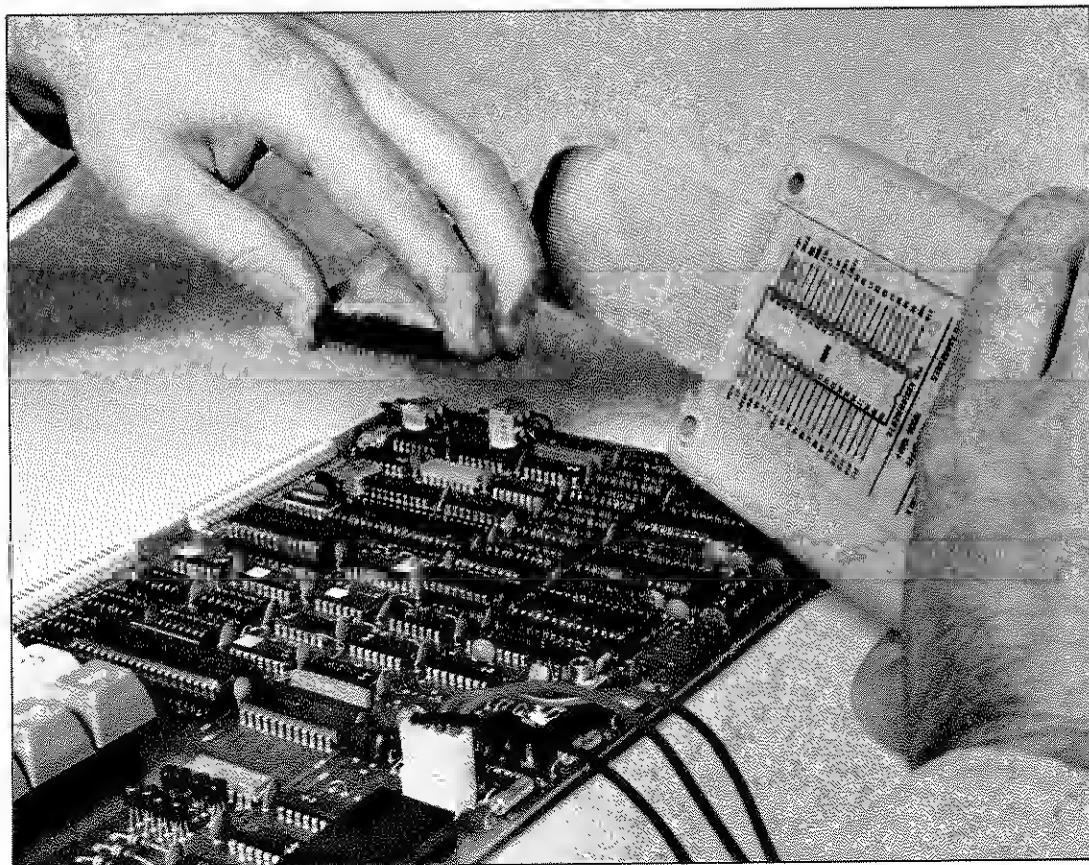

Figure 4B-1. Interface Pod Installation
5. Align the pod plug properly with the UUT μ P socket and insert the pod plug into the μ P socket as shown in Figure 4B-1. The slanted corner of the pod plug should be aligned with pin 1 of the μ P socket.